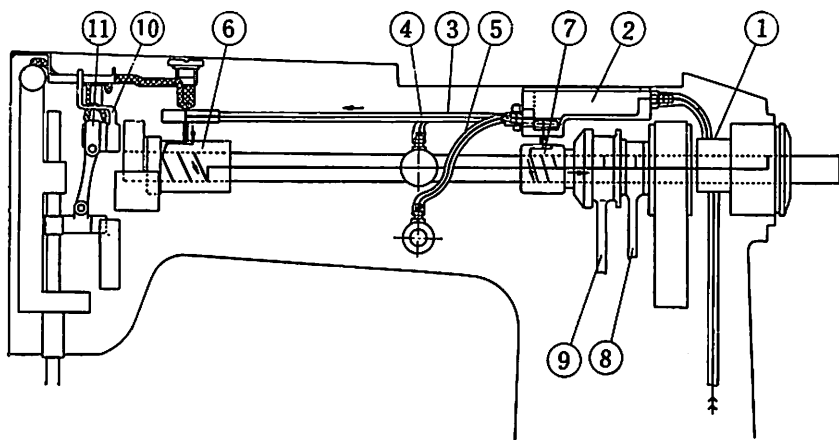

Fig. 3
\* The lubricating oil is siphoned up from the oil reservoir, as shown in Fig. 3 by a pump ① and enters the oil tank ② on top of the arm. Then it goes through a copper pipe ③ and a vinyl pipe ④ from this tank and supplies oil to the front part of the main shaft ⑥, the central bushing ⑦, the feed lifting connection ⑧ and feed driving connection ⑨. Also, the thread take-up ⑩ and the needle bar crank ⑪ are oiled from the oil reservoir from the upper part of the front bushing of the main shaft.
When the oil reservoir is filled up, the oil flows out from the oil escaping hole and enters the oil sight window and thus the smooth circulation of the oil can be readily verified. However, it takes a considerable amount of time for the reservoir to be fully filled up, so the oil does not come to the oil sight window immediately after the start of running. (Fig. 3)